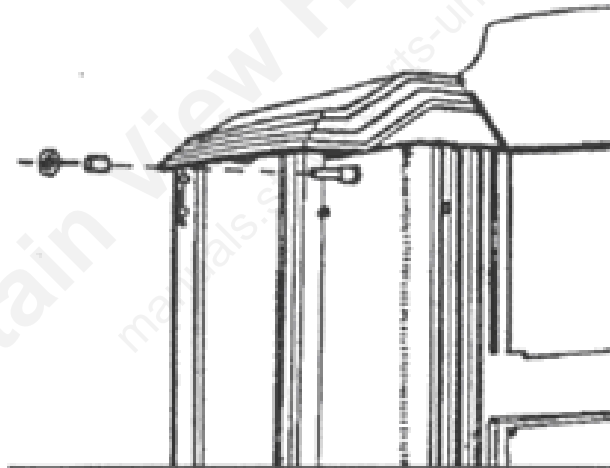

Fig. 2 \_ Right end of damper actuator rod.
- 9) When all necessary cleaning and re-gasketing is complete, re-assemble the stove with repaired and/or replaced parts in reverse sequence (**see Fig. 2**).